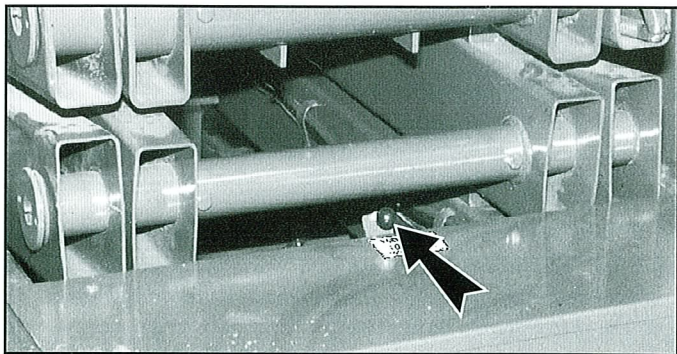

Figure 4: Emergency Lowering Valve Knob
14. Open the chassis emergency lowering valve (Figure 4) to check for proper operation by pulling and holding the knob out. Once the platform is fully lowered, close the valve by releasing the knob.
The emergency lowering valve is located at the front of the machine at the base of the scissor assembly, (Figure 4).